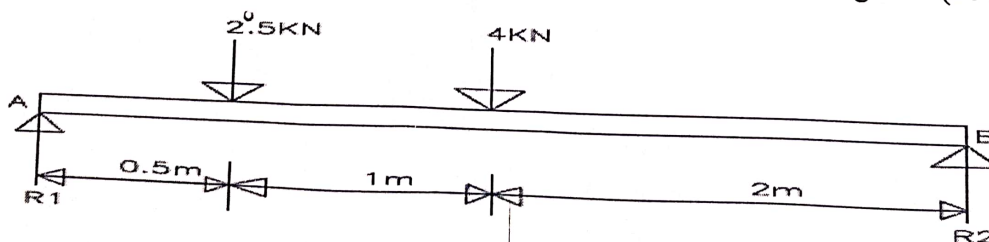

Figure Q2: Beam AB of length 3.5m
- a) Figure Q2 shows a beam AB of length 3.5m, determine the reaction at A (R_1) and the reaction at B (R_2). Also, draw the shear force and bending moment diagrams (10 Marks).